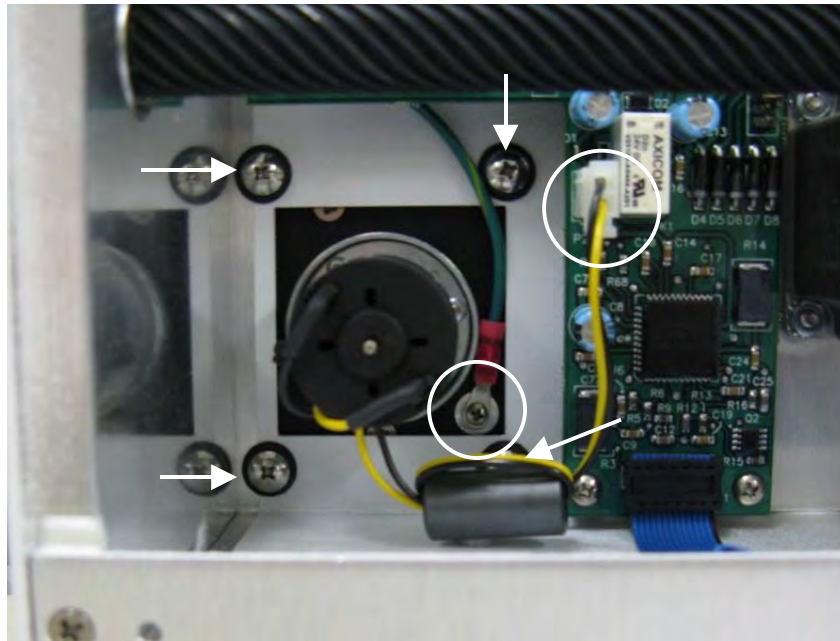

Figure 2-3. Pump wiring and mounting screws.
6. Remove the ground wire from the pump module. See Figure 2-3.
7. Remove the power cord from the main board. See Figure 2-3.
12. Reconnect the ground wire to the new pump face plate. See Figure 2-3.